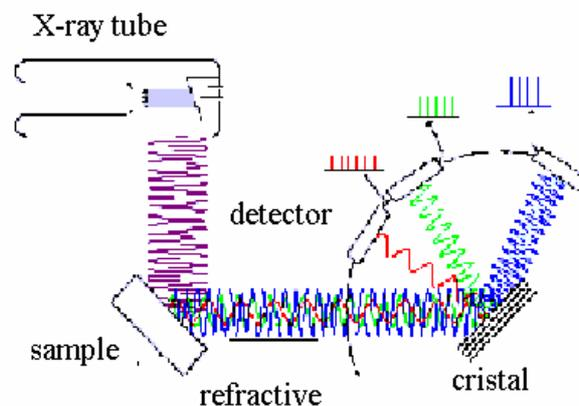

Figure 3
1. Essence of operation of wavelength-deflecting XRF spectrometers is that in the diffraction space a crystal distributes the x-ray lines of different length emitted by the sample. The recipient can receive only one wavelength at a time, therefore the crystal and the recipient alternate the angle of inclination at the same time. Structure of a wavelength-deflecting spectrometer can be followed on figure 3.